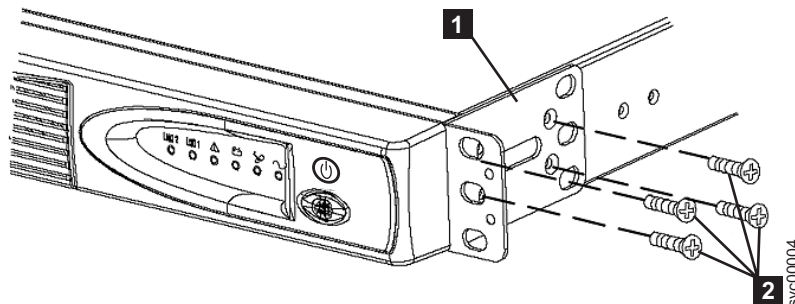

Figure 49. Installing the support rails for a 2145 UPS-1U into the rack
3. Attach the long side of a mounting bracket **1** to each side of the 2145 UPS-1U using four M3 × 6 screws **2** for each bracket, as shown in Figure 49.